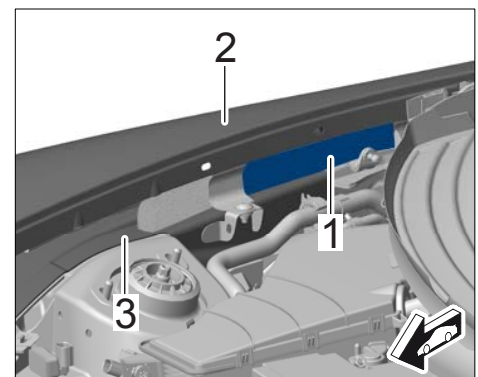

Figure 47
- 7 Re-fit foam seal ⇒ *Figure 47 -1-* between the right wing ⇒ *Figure 47 -2-* and longitudinal member for the wheel housing upper section ⇒ *Figure 47 -3-*.
Stick on the foam seal ⇒ *Figure 47 -1-* using double-sided adhesive tape if necessary.